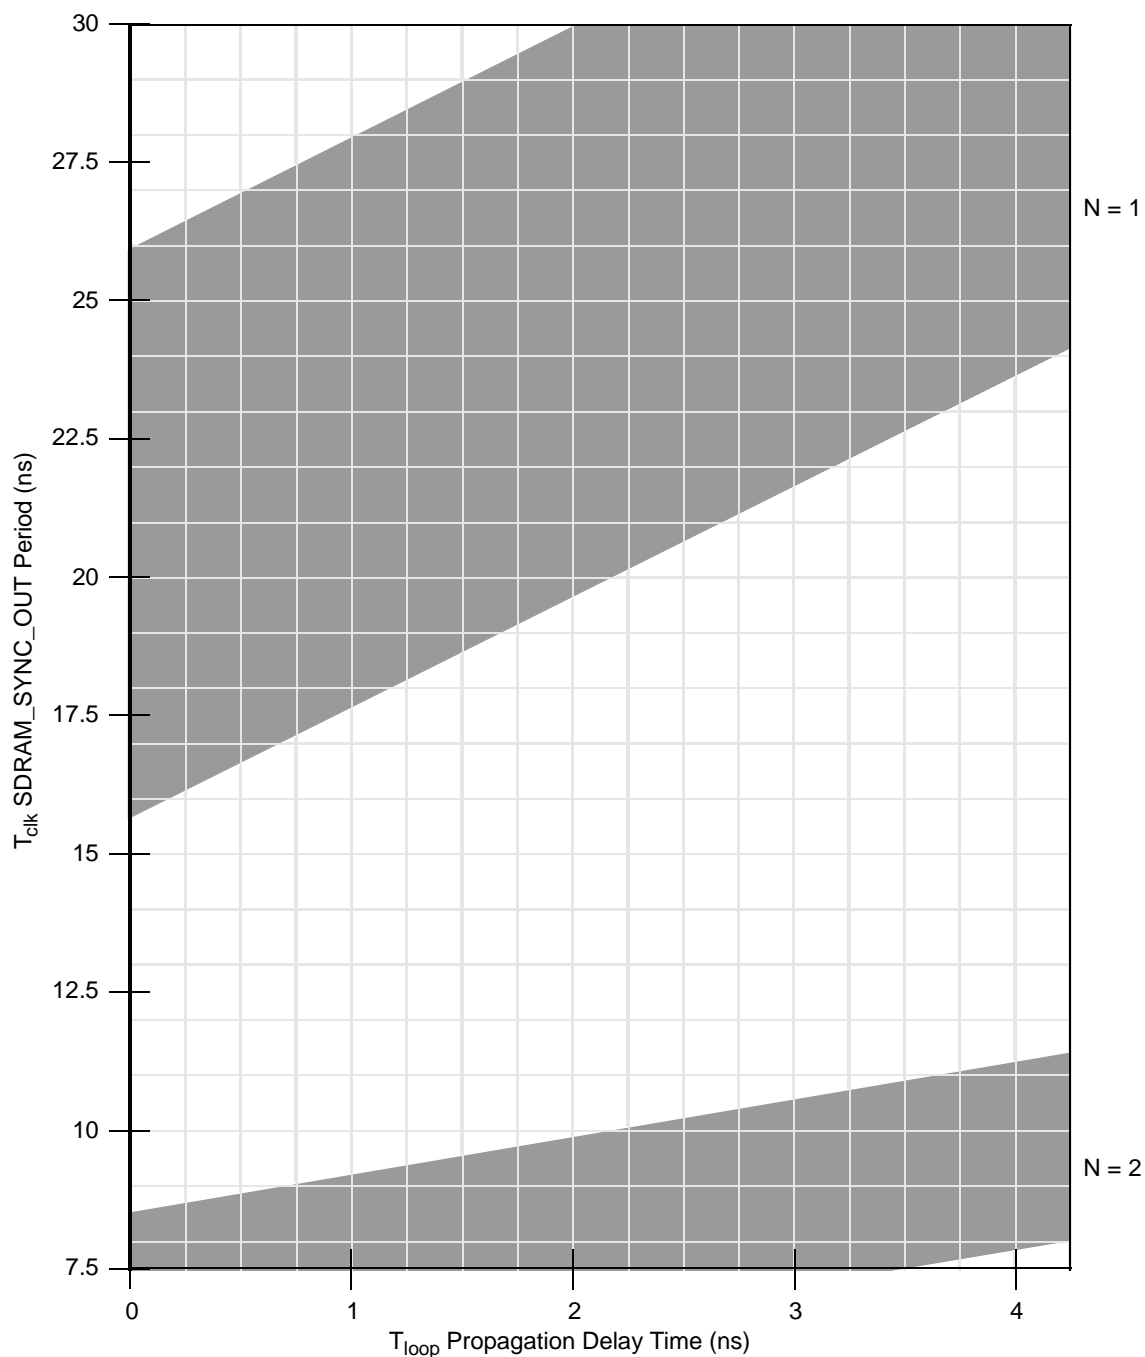
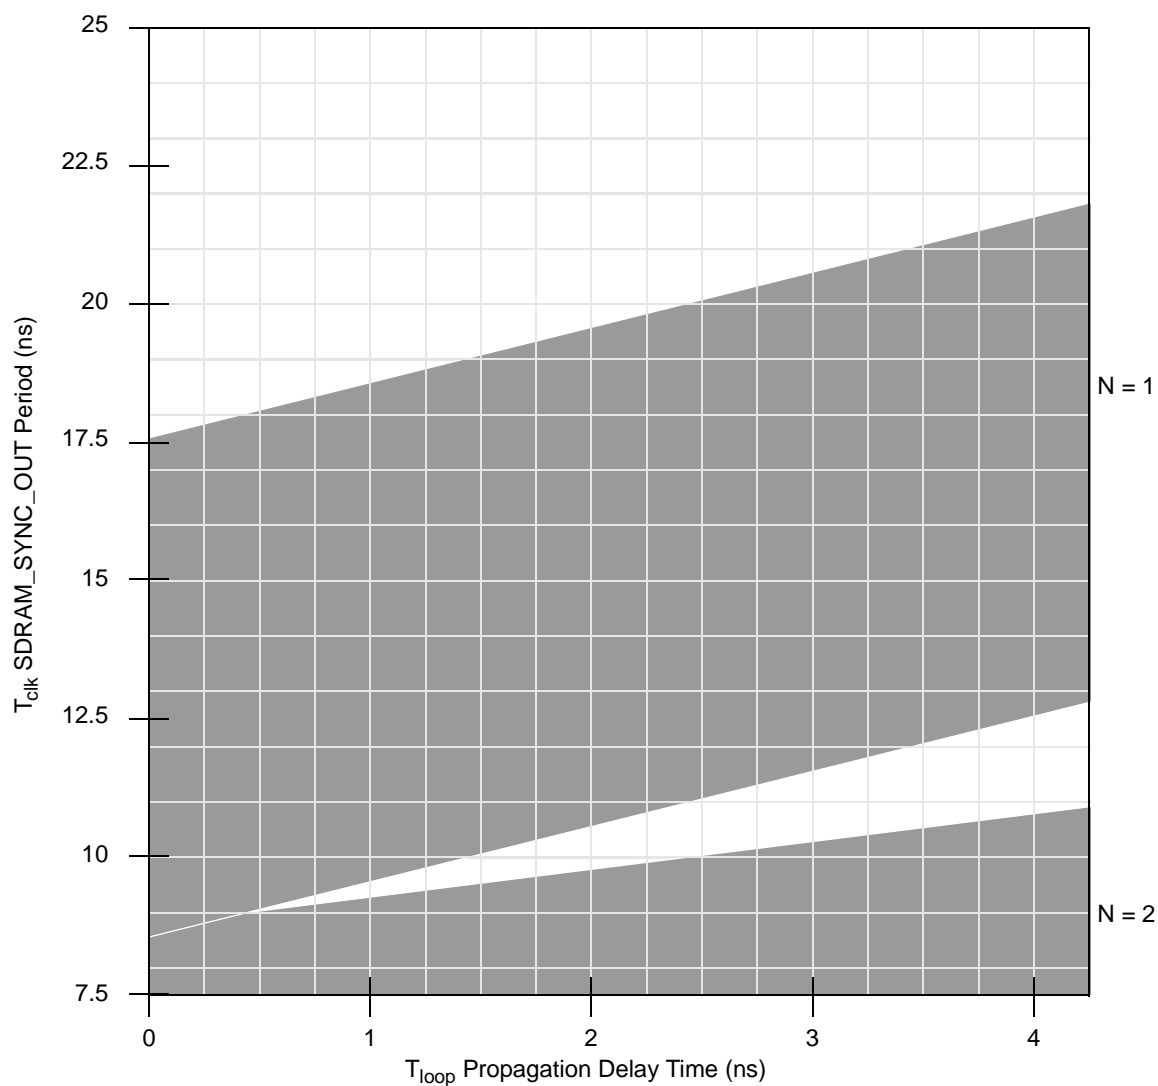

Figure 7. DLL Locking Range Loop Delay vs. Frequency of Operation for DLL_Extend = 1 and Normal Tap Delay
Figure 10. DLL Locking Range Loop Delay vs. Frequency of Operation for DLL_Extend = 0 and Max Tap Delay
6. DLL_EXTEND is bit 7 of the PMC2 register <72>. N is a non-zero integer (see Figure 7 through Figure 10). T_{clk} is the period of one SDRAM_SYNC_OUT clock cycle in ns. T_{loop} is the propagation delay of the DLL synchronization feedback loop (PC board runner) from SDRAM_SYNC_OUT to SDRAM_SYNC_IN in ns; 6.25 inches of loop length (unloaded PC board runner) corresponds to approximately 1 ns of delay. $T_{dp}(\text{max})$ and $T_{dp}(\text{min})$ are dependent on tap delay. See Table 9 for values of $T_{dp}(\text{max})$ and $T_{dp}(\text{min})$. See Figure 7 through Figure 10 for DLL locking ranges. Refer to Motorola Application Note AN2164, *MPC8245/MPC8241 Memory Clock Design Guidelines*, for more details on memory clock design.
Figure 6 shows the PCI_SYNC_IN input clock timing diagram and Figure 7 through Figure 10 show the DLL locking range loop delay vs. frequency of operation.
Figure 7 through Figure 10 show the DLL locking range loop delay vs. frequency of operation. These graphs define the areas of DLL locking for various modes. The grey areas represent where the DLL will lock.
7. T_{OS} represents a timing adjustment for SDRAM_SYNC_IN with respect to sys_logic_clk. Due to the internal delay present on the SDRAM_SYNC_IN signal with respect to the sys_logic_clk inputs to the DLL, the resulting SDRAM clocks become offset by the delay amount. The feedback trace length of SDRAM_SYNC_OUT to SDRAM_SYNC_IN must be shortened by this amount relative to the SDRAM clock output trace lengths to maintain phase-alignment of the memory clocks with respect to sys_logic_clk. Note that the DLL locking range graphs of Figure 7 through Figure 10 compensate for T_{OS} and there is no additional requirement to shorten T_{loop} by the duration of T_{OS} . Refer to Motorola Application Note AN2164, *MPC8245/MPC8241 Memory Clock Design Guidelines*, for more details on accommodating for the problem of T_{OS} and trace measurements in general.